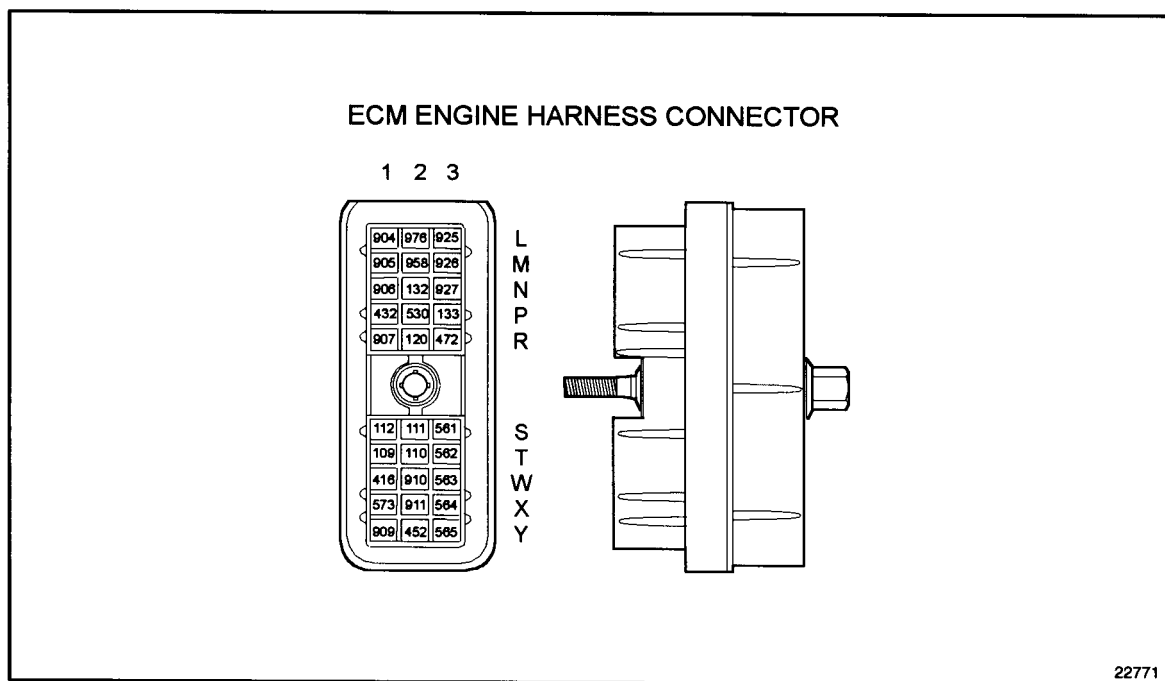

Figure 42-2 ECM Engine Harness Connector
2. Disconnect engine harness connector at the ECM of the ECM associated with the code. See Figure 42-2.
3. Measure resistance between sockets S1 and S2 on the engine harness connector. See Figure 42-2.